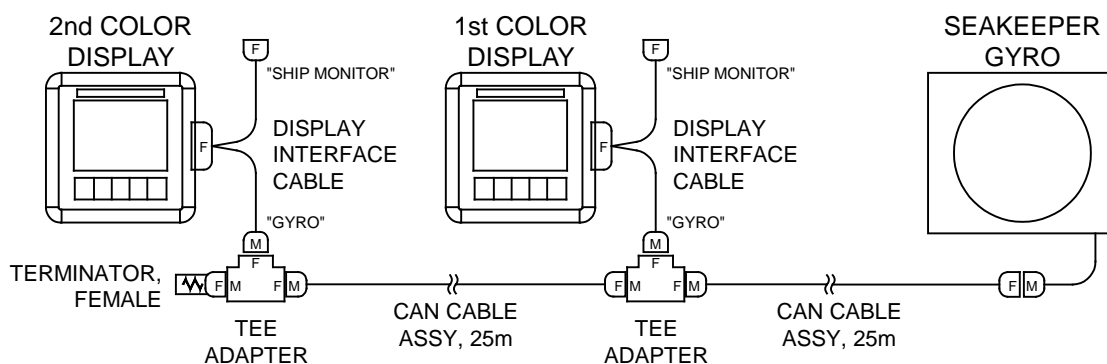

FIGURE 11 – CABLING FOR 2 OPERATOR STATIONS
- a. Figure 11 below shows the entire serial communications link for 2 Operator Stations. The Terminator must be installed on the Tee Adapter farthest from the Gyro.